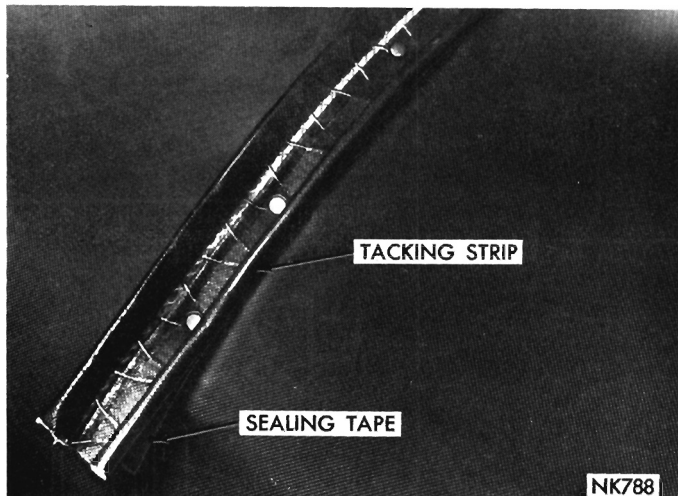
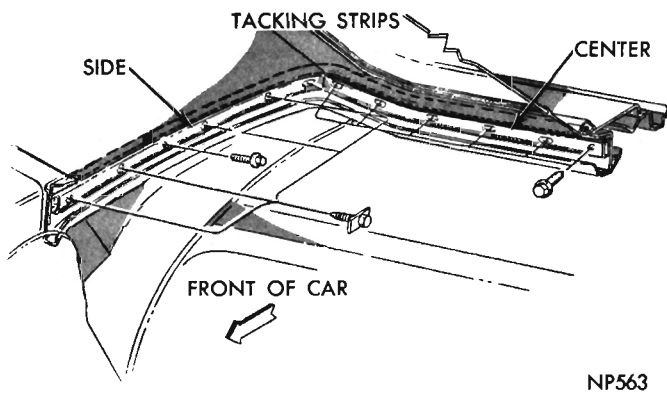

Fig. 12 Rear Bow Tacking Strip
Fig. 17 Cover Tacking Strip
(1) Place protective covers over the deck lid, deck lid upper panel, hood and cowl areas.
(2) Unsnap top boot and lay over rear seat back.
(3) Unzip the backlight and lay in well.
(4) Remove retainers from ends of tacking strip on rear bow and spread tacking strip (Fig. 12).
(5) Using a sharp pointed tool remove staples and tacking strip. **Use care not to damage the top material if the original cover is to be reinstalled. In some instances the staples ends may have become peened over and if excessive effort is required to remove them, it is advisable to cut the heads off the staples and remove the pieces after the top cover has been removed, otherwise damage to the top material may result.**
(6) Remove staples and tacks (one tack used on each side at binding areas and at centerline area
The rear window zipper top half is tacked to the rear bow (Fig. 12) and the curtain bottom portion is attached to tacking strips (Fig. 17).